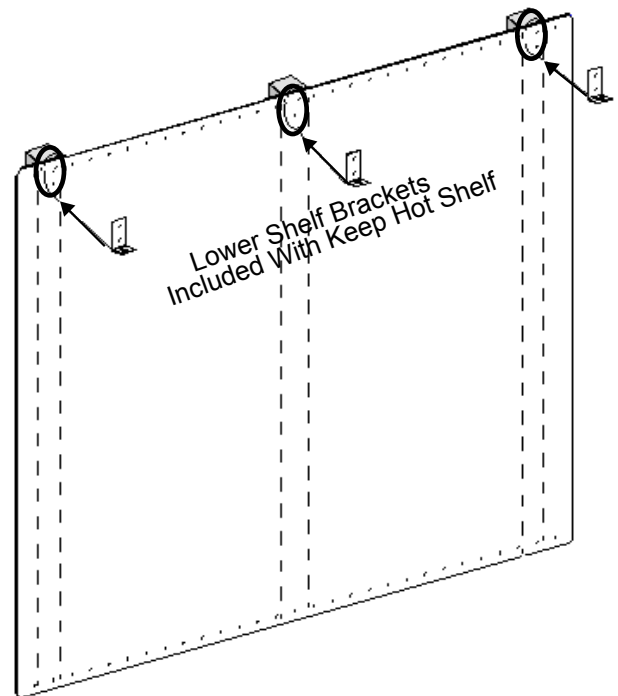

Figure 21: Backsplash with a Keep Hot Shelf
3. At the locations indicated in *Figure 21*, mount the lower shelf brackets included with the Keep Hot Shelf through the Backsplash and into the wall studs.